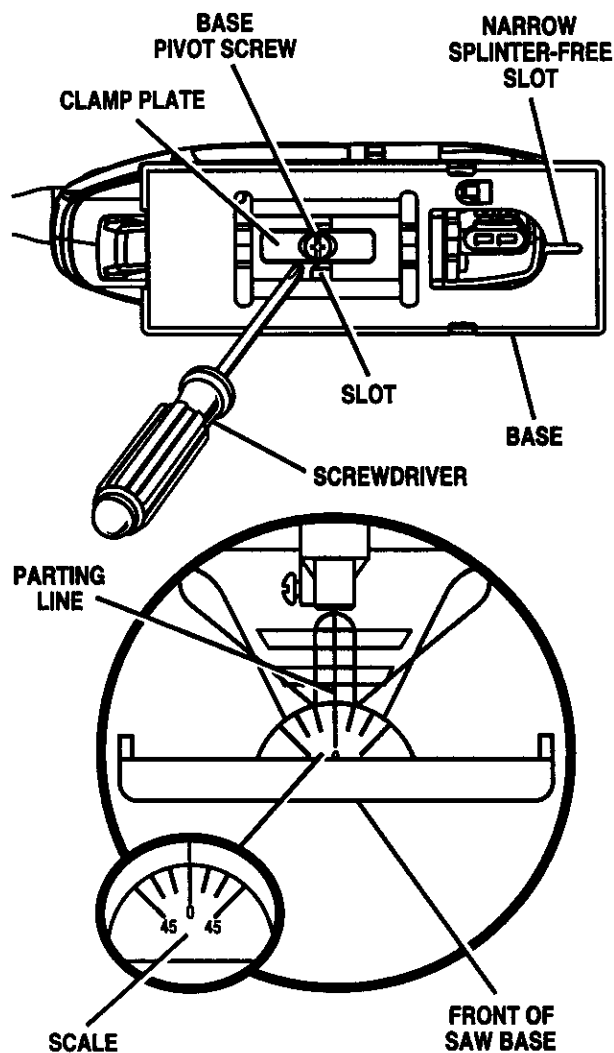

Fig. 10
See Figures 10 and 11.
- Once the desired angle is reached, tighten the base pivot screw securely. See Figure 10.